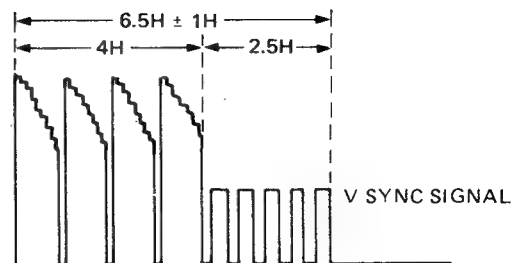

Figure 8-18.
3. Selecting (+) sync slope with the oscilloscope, adjust R723 to meet the requirements given in Figure 8-18.